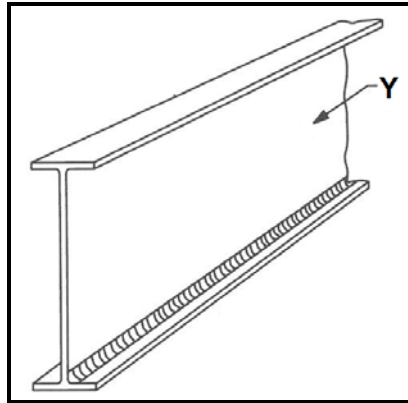

FIGURE 4.1
- 4.1 FIGURE 4.1 below shows a section of a plate girder. Identify part Y.